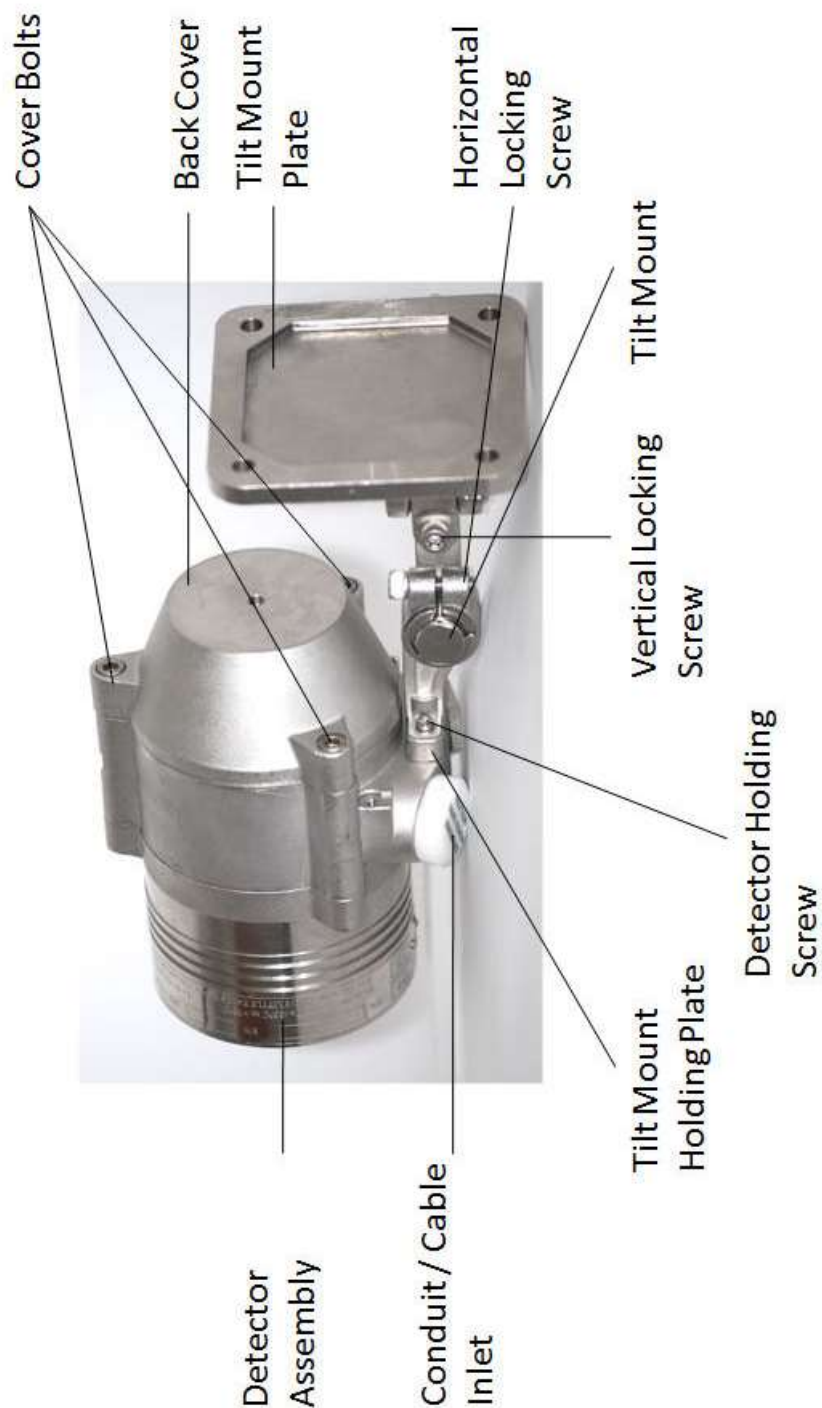

Figure 4: Detector with Tilt Mount
Figure 4 shows the Detector mounted on the Tilt Mount.
- 9 Place and secure the detector's back cover by screwing the three (3) socket-head-screws in the Cover Bolts (Figure 4).